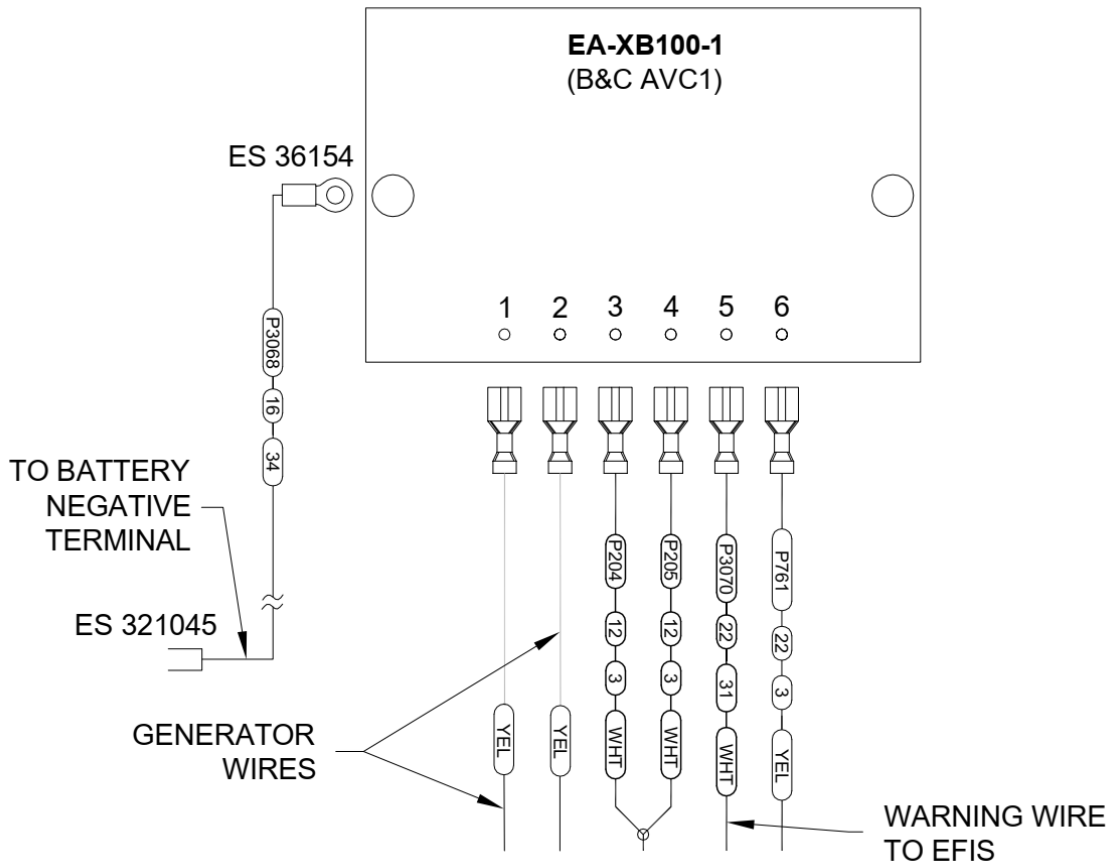

FIGURE 3: DUCATI UPGRADE WIRE CONNECTIONS
Step 13: Fabricate the WH-P3068 wire shown in Figure 3 out of 16 AWG (WHT) wire using the wire ends and length shown.
Step 14: Connect the electrical wires to the regulator as shown in Figure 3.